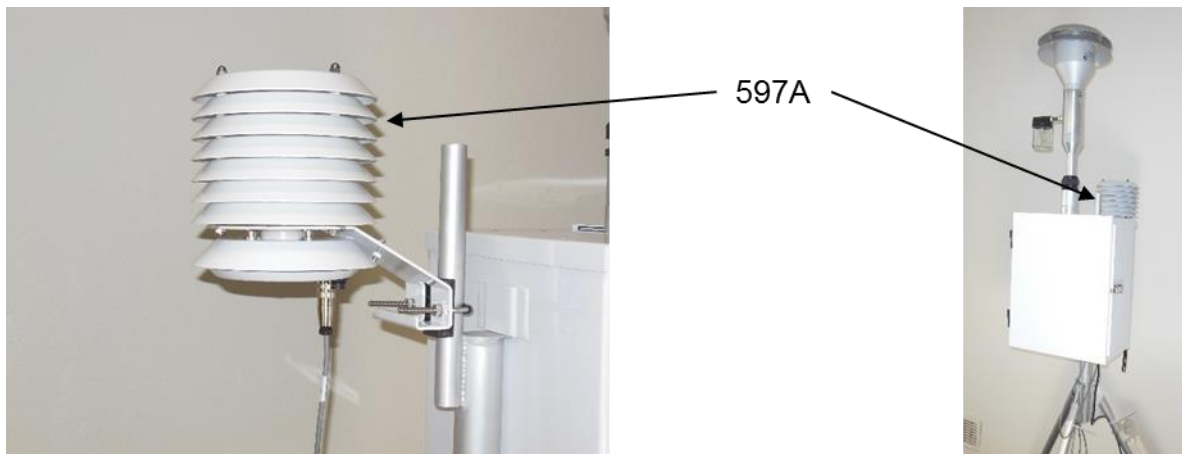

Figure 2-3 Mounting the BX-597A Sensor
4. **Install BX-597A Sensor:** Connect the BX-597A sensor to the post on the back of the tripod with the supplied mounting hardware (user supplied 7/16" wrench required). The BX-597A sensor should face away from the E-BAM as shown in Figure 2-3. Verify configuration after power-up as detailed in section 2.7.1.